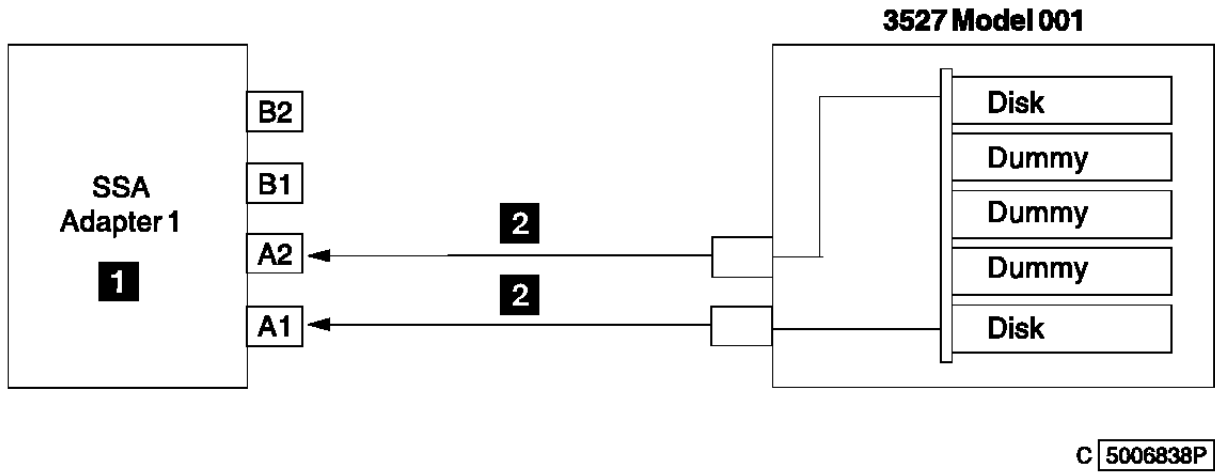

Figure 7. Minimum 3527 Storage Unit Configuration.
3. Connect the two SSA cables from the 3527 Storage Unit to either adapter ports A1 and A2 or ports B1 and B2 on the host system (Figure 7).